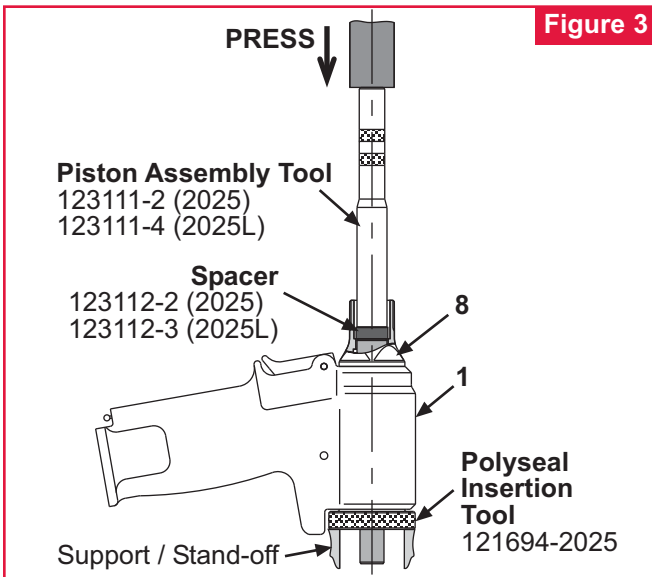

Figure 3
HEAD/HANDLE 2025 & 2025L: (Figures 3, 4 & 14)
16. Thread POLYSEAL Insertion/removal Tool into rear of Handle/head. (Fig. 3)